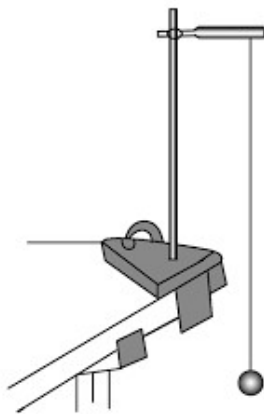

Figure 1
1. Tie one end of the string to the pendulum bob and the other end to the retort stand using a clamp, as shown in Figure 1.